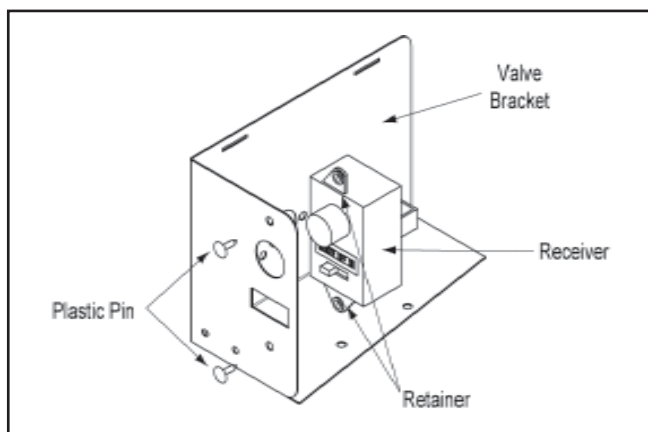

Figure 1 (DLS Series Gas Logs Only)
- Push the plastic retainers on the receiver over the plastic pins in the valve bracket as shown in Figure 1.